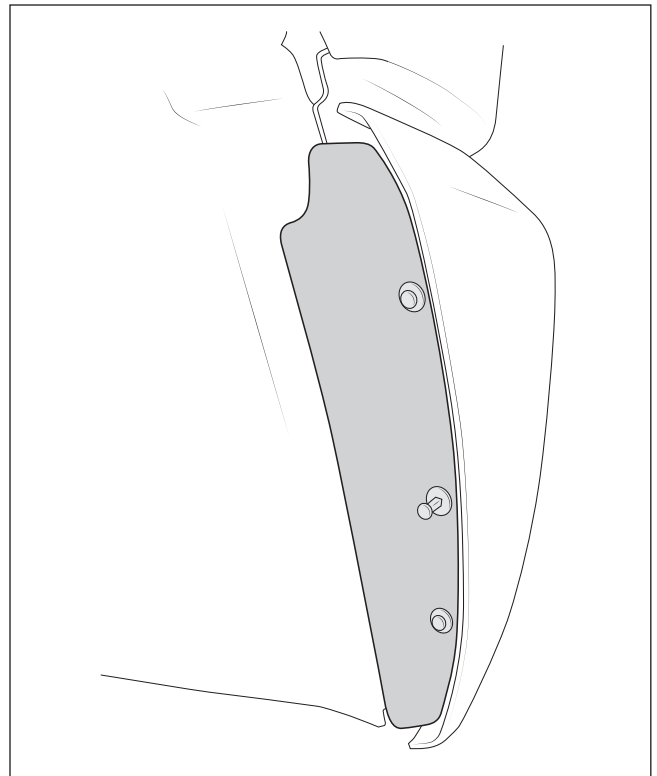

Figure 43
4. Install fender liner retainer plates (fig. 43).